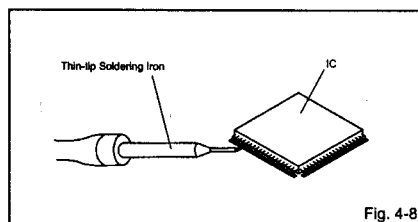

Fig. 4-8
4. When bridge-soldering between terminals and/or the soldering amount are not enough, resolder using a Thin-tip Soldering Iron. (Refer to Fig. 4-8.)